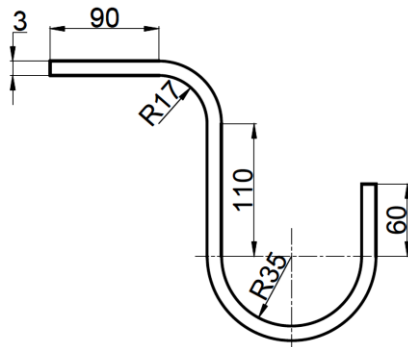

Figure 2
- (b) State the advantages and disadvantages of Press working. (5)
- (c) Explain OBI press (5)
Q. 4. (a) Explain Spring-back effect and methods used to reduce it. (5)
- (b) Find out developed part length for the bent component shown in **Figure 2**. (5)